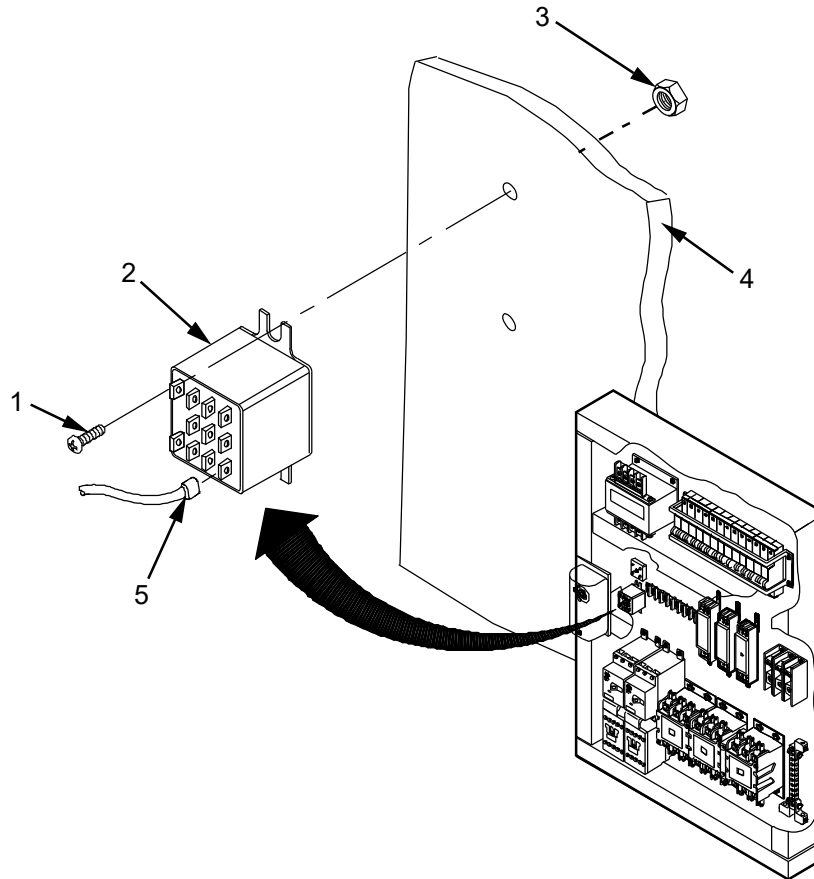

Figure 2. Relay CR2 Replace.
3. Verify that all electrical wires (Figure 2, Item 5) connected to relay being replaced is properly identified.
4. Reach behind Control Panel (Figure 2, Item 4) and locate retaining nuts (Figure 2, Item 3). Remove and retain two screws (Figure 2, Item 1) and two nuts (Figure 2, Item 3) that secure relay (Figure 2, Item 2) to control panel (Figure 2, Item 4) and remove relay (Figure 2, Item 2).
1. Install relay (Figure 2, Item 2) onto control panel (Figure 2, Item 4) and secure using two screws (Figure 2, Item 1) and two nuts (Figure 2, Item 3).
2. Inspect all electrical wires (Figure 2, Item 5) being connected. Ensure no physical damage is present. If necessary, repair or replace.